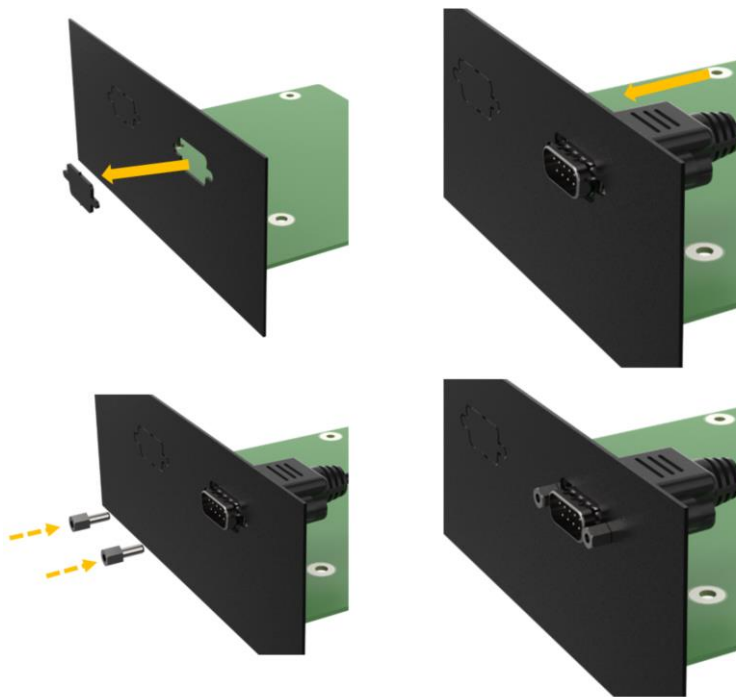

Figure 3-10: RS-232 DB9 Cable Installation
Step 3: Knock out the reserved holes on the chassis and secure the DB9 end of the serial cable to the panel. (Figure 3-10)